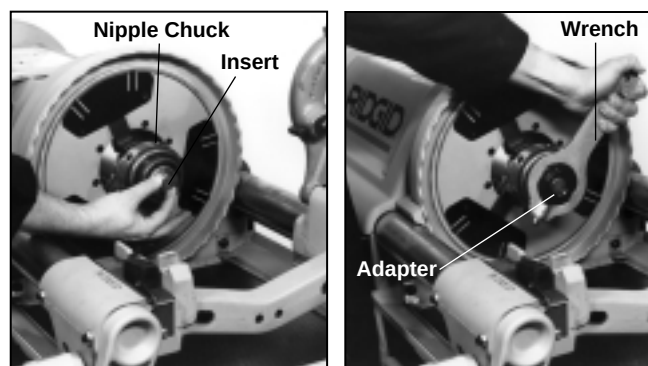

Figure 29 – Installing Nipple Chuck Body and Adapter
2. Place nipple chuck body (Figure 29) in machine chuck, gripping jaw grooves.
3. Position insert (Figure 29) small end toward adapter with 1/8" to 3/4" pipe; large end with 1" pipe; no insert 1 1/4" pipe and up.
4. Select proper size nipple chuck adapter and screw into nipple chuck by hand (Figure 29). Tighten with wrench provided with nipple chuck.